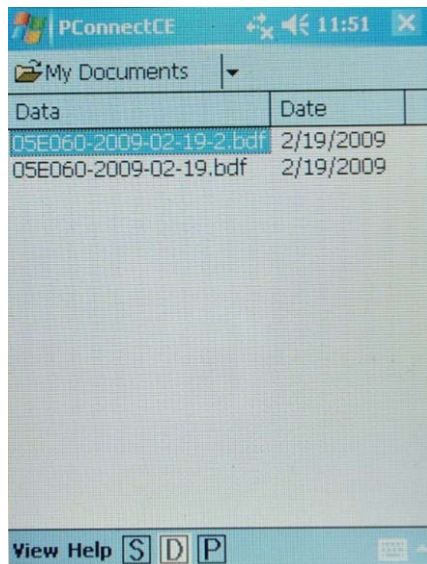

Figure 14: Data File List with GOES diagnostics file highlighted for deletion.
- 6.2.8.1 Switch from the Station Window to the Data Window by clicking the large “D” at the bottom of the screen. The Data File list should appear showing all of the “.bdf” files in the My Documents folder (see Figure 14). Confirm that the data file has been stored with the filename specified earlier.
- 6.2.8.6 The GOES diagnostics file may be deleted at this time. The GOES file appears on the data file list having the same filename as the data file, but with the characters “-2” added just before the “.bdf” file extension (See Figure 14). To delete the file from this list, click and hold the stylus on the filename and select “Delete” in the small box that appears.